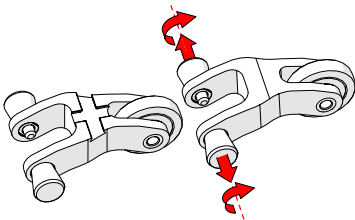

Fig. 78 - Pull out and twist pins
1. Pull the pins out from the wheels, twist a quarter turn and latch the pins in a retracted state (Fig. 78).